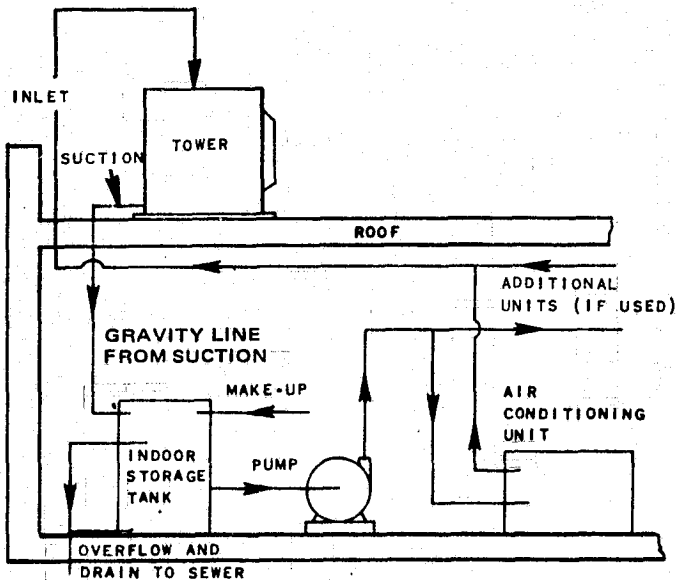

FIGURE 1. Flow Diagram for a Cooling Tower with Indoor Storage Tank. (Piping Is Arranged So That Tower Basin Will Drain When Pump Is Shut Off.)
1. Where operating conditions require tower use during freezing weather, it is recommended that the towers be installed for "dry basin" operation. See Figure 1.